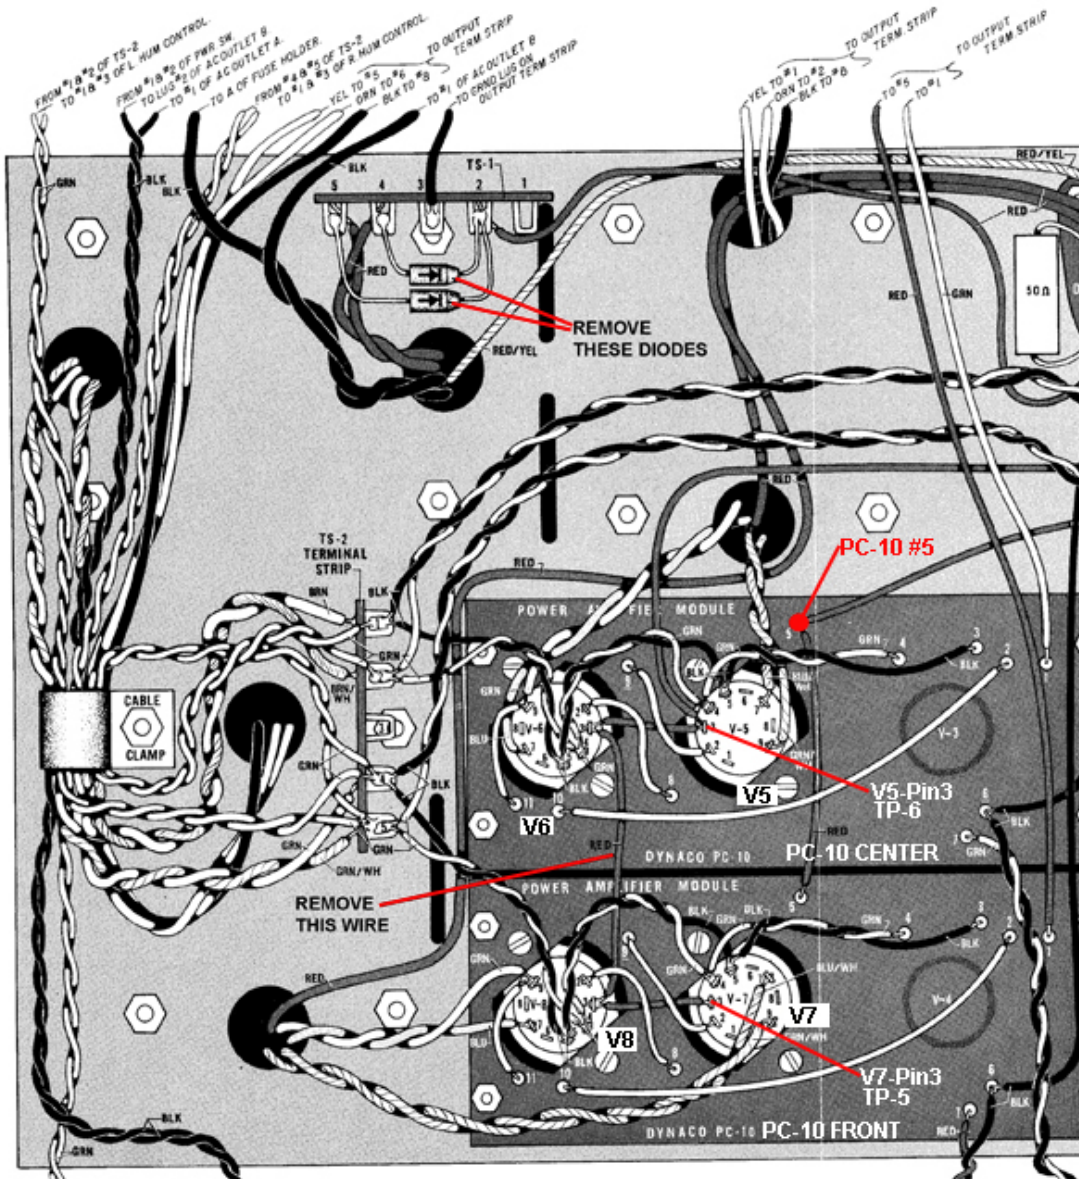

Figure 4A – Five Lug (TS-1) Terminal Strip Wiring Diagram
- Refer to Figure 4a. Once your terminal strip has been prepped, connect a solid wire jumper (you can use an old resistor lead from your pc board assembly) between terminals #3 & #2. Make the connection on the top side of the terminal strip.
Locate the 5 wire twisted group (Red, Red, White, Green, Black) from the SCA35-CAP module and route along the rear edge of the inner chassis leading towards Terminal Strip TS-1. I recommend running the group along the inner rear edge of the chassis under all existing wiring such that the group emerges near the rear side of TS-1. You will now connect these five wires as described below to TS-1. Note that it will be necessary to trim each wire to length to be sure you have a clean professional installation. Refer to Figure 4a and make the following connections: